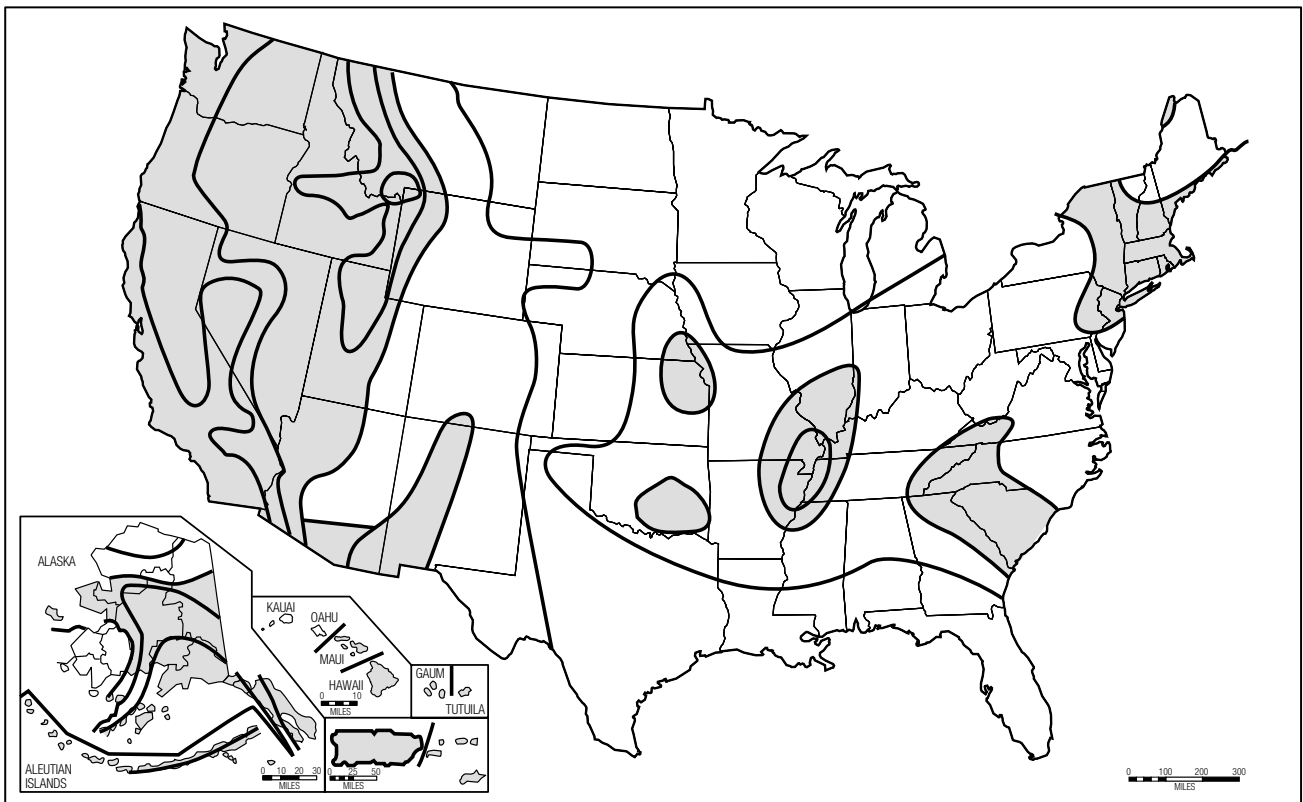

Figure 2 Seismic Activity Zone Map of the United States.
See the Seismic Zone Map of the United States (Figure 2 on page 21) to determine the seismic zone of building locale.
<p>Is the building located in the unshaded area on the Seismic Activity Zone map (Figure 2) and was it designed by a design professional?</p> <p><input type="checkbox"/> Yes (0)                      <input type="checkbox"/> No (2)</p> <p>If yes, further inspection within the seismic checklist is not necessary. STOP HERE.</p> <p>Is the building located in a Seismic Activity Zone (shaded area on Seismic Activity Zone map in Figure 2)?</p> <p><input type="checkbox"/> Yes (5)</p>